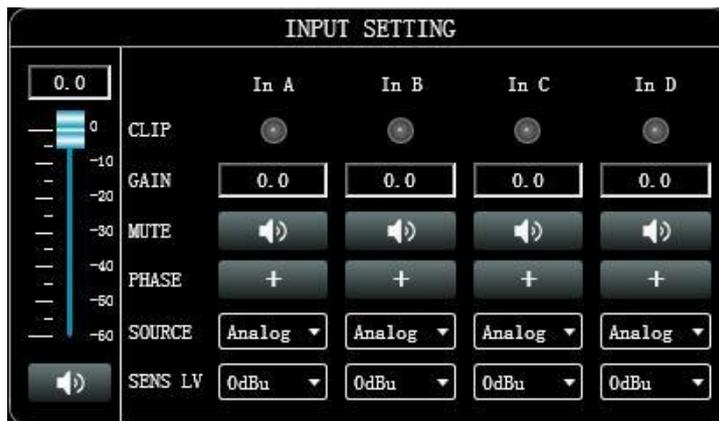

Figure 6.1.3
1. As shown in Figure 6.1.3, is the total volume push button, you can use the mouse to drag, or you can directly enter the exact value in the input box . is the mute button.